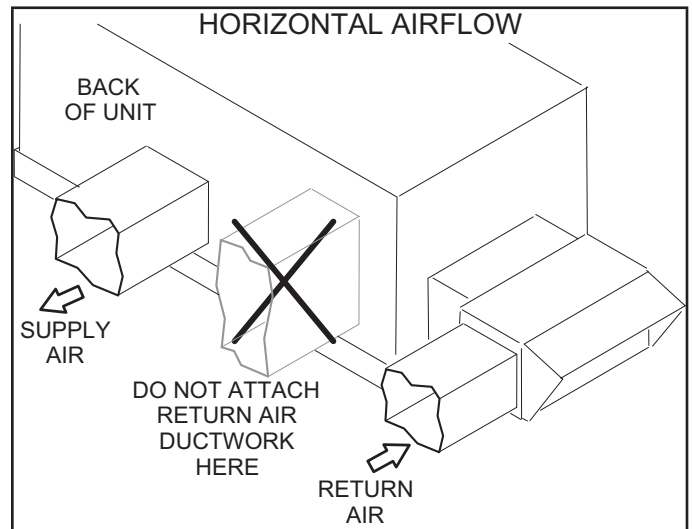

FIGURE 7
- 3 - Make sure the horizontal return air cover on the back side of the unit remains in place. The opening is used when an economizer is not installed. See FIGURE 7.